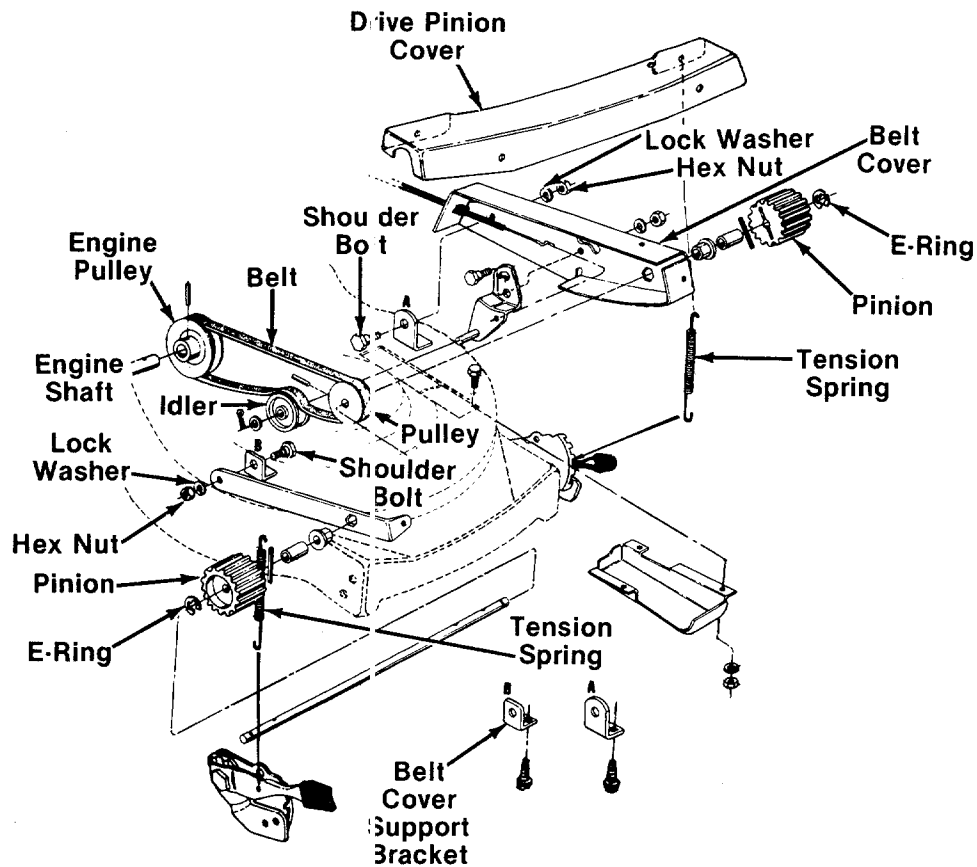

FIGURE 19.
BELT REPLACEMENT (See Figure 19)
2. Remove both tension springs. See figure 19.